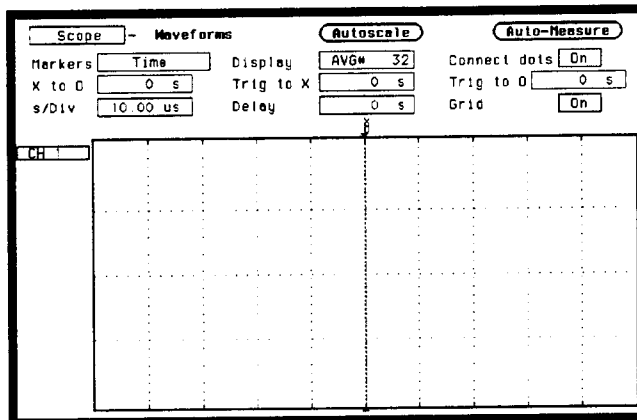

Figure 3-52. Waveforms Display Menu
6. Press DISPLAY and set the **Markers** to **Time**, **Display** to **AVG# 32**, **Connect dots** **On**, and **Grid** **On** as in figure 3-52.